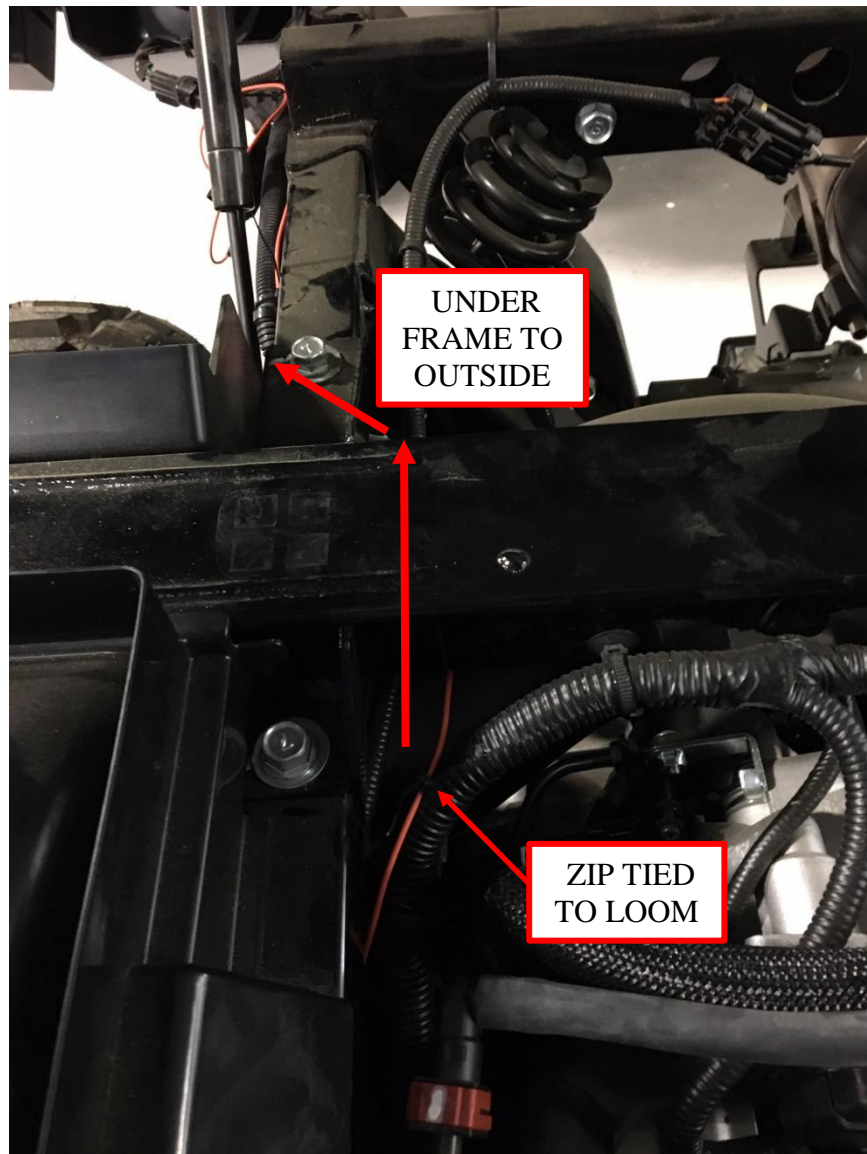

Figure 21: Orange (accessory) harness wire routing.
17. Route the orange (accessory) harness wire along the rear frame as shown in Figure 21.